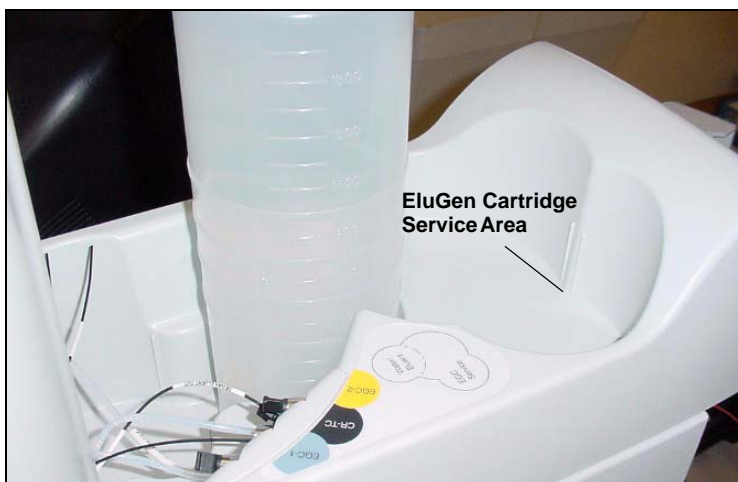
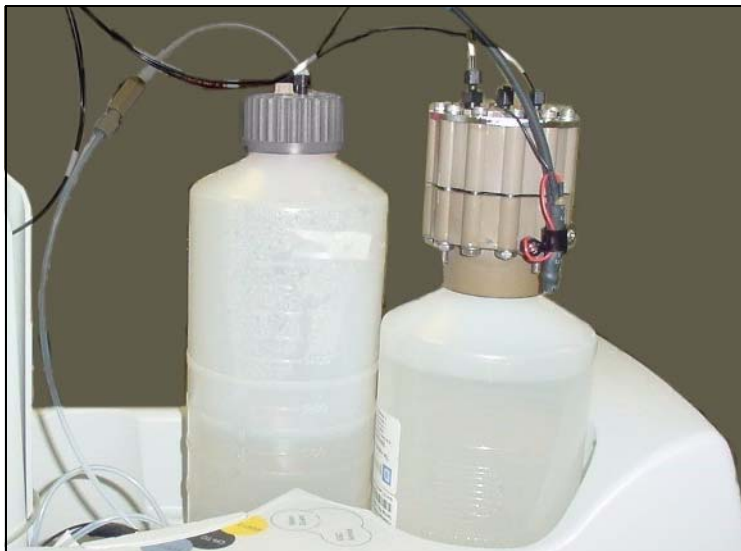

Figure 5-47. EluGen Cartridge Service Area
Figure 5-48. EluGen Cartridge In the Service Area
7. Turn the cartridge upside down and set it in the EluGen cartridge service area on top of the ICS-2100 (see Figure 5-47 and Figure 5-48).